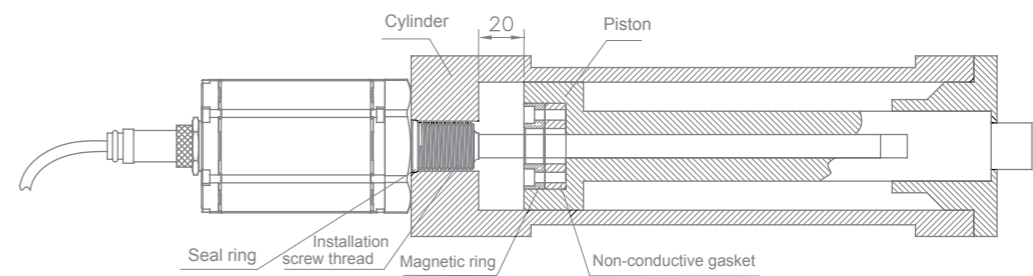

Figure 1: Hydraulic Cylinder Installation Diagram
- 1) Screw the sensor into the installation hole of the external cylinder liner and tighten it, as shown in Figure 1. (Note: please machine the hydraulic cylinder installation hole to make it consistent with the sensor installation screw thread, the sealing surface of the "O"-ring should be machined as shown in Figure 2; and the sensors installation screw thread dimensions are shown in the table below)
- 2) According to the dimensions of the magnetic ring, the installation space of the magnetic ring and the non-magnetic guide gaskets (as shown in Figure 1) shall be machined on the piston rod and four M3 installation screw holes shall be machined. The non-magnetic guide gaskets on the magnetic ring gasket shall be fixed by special screws M3×16 and special washers#6.